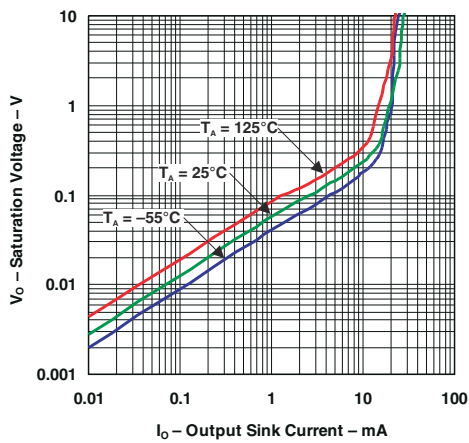

图 7-35. Output Saturation Voltage
- $R_{CE}$  can be determined by taking the slope of 图 7-35 in its linear region at the desired temperature, or by dividing the  $V_{OL}$  by  $I_{OUT}$